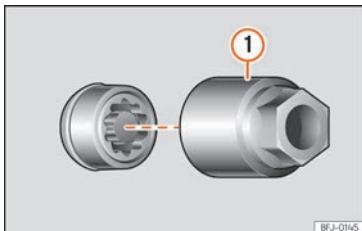

Fig. 194 Anti-theft wheel bolt with cap and adapter.
- Insert the special adapter »» Fig. 194 ① (vehicle tools »» page 251) onto the anti-theft wheel bolt and push it on as far as it will go.